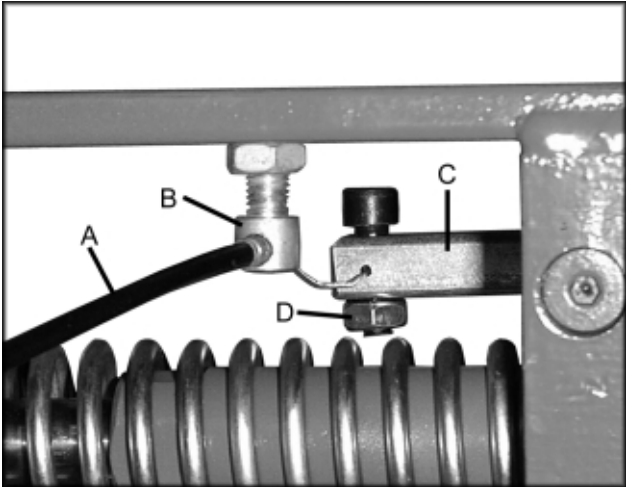

Fig. 3
4. Route the cable (A, Fig. 3) into the cable nut (B, Fig. 3). Run the cable through the lowering mechanism (C, Fig. 3) and pull the cable tight. Tighten the hex nut (D, Fig. 3) using a 14mm wrench.